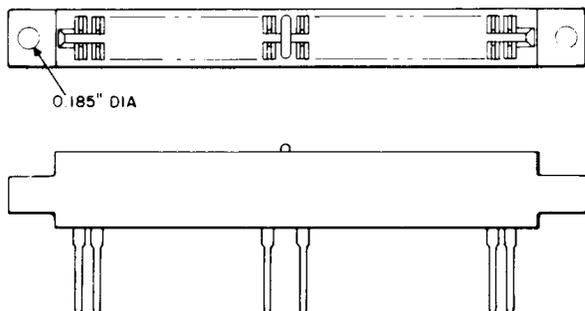

Fig. 1—940-Type Connectors
2.01 **940A, C, C2, C3, C4, C5, D, and E:** The 940-type connectors (Fig. 1) consist of a molded housing of insulating material having a molded, polarizing rib and contains 50 spring terminals in 2 rows of 25 each. One end of each terminal is contained within the housing and is equipped with twin contacts for connection to a printed wiring terminal. The connectors are arranged to make contact with printed wiring terminals on two sides of a 0.062-inch thick printed wiring board. The other end of each terminal protrudes through the wall of the housing.